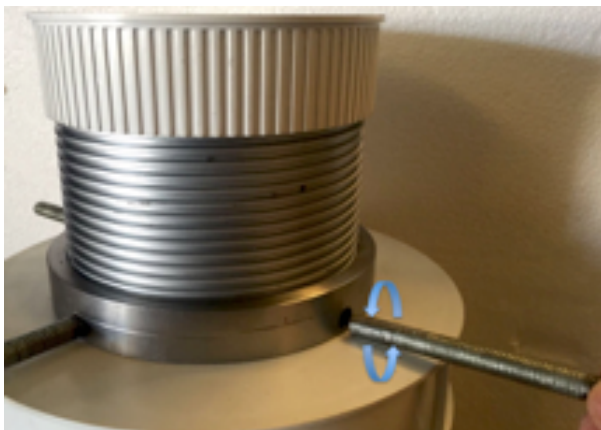

Fig. 1
- Screw the 4 security fixing arms (6) into the security fixing ring (Fig.1)